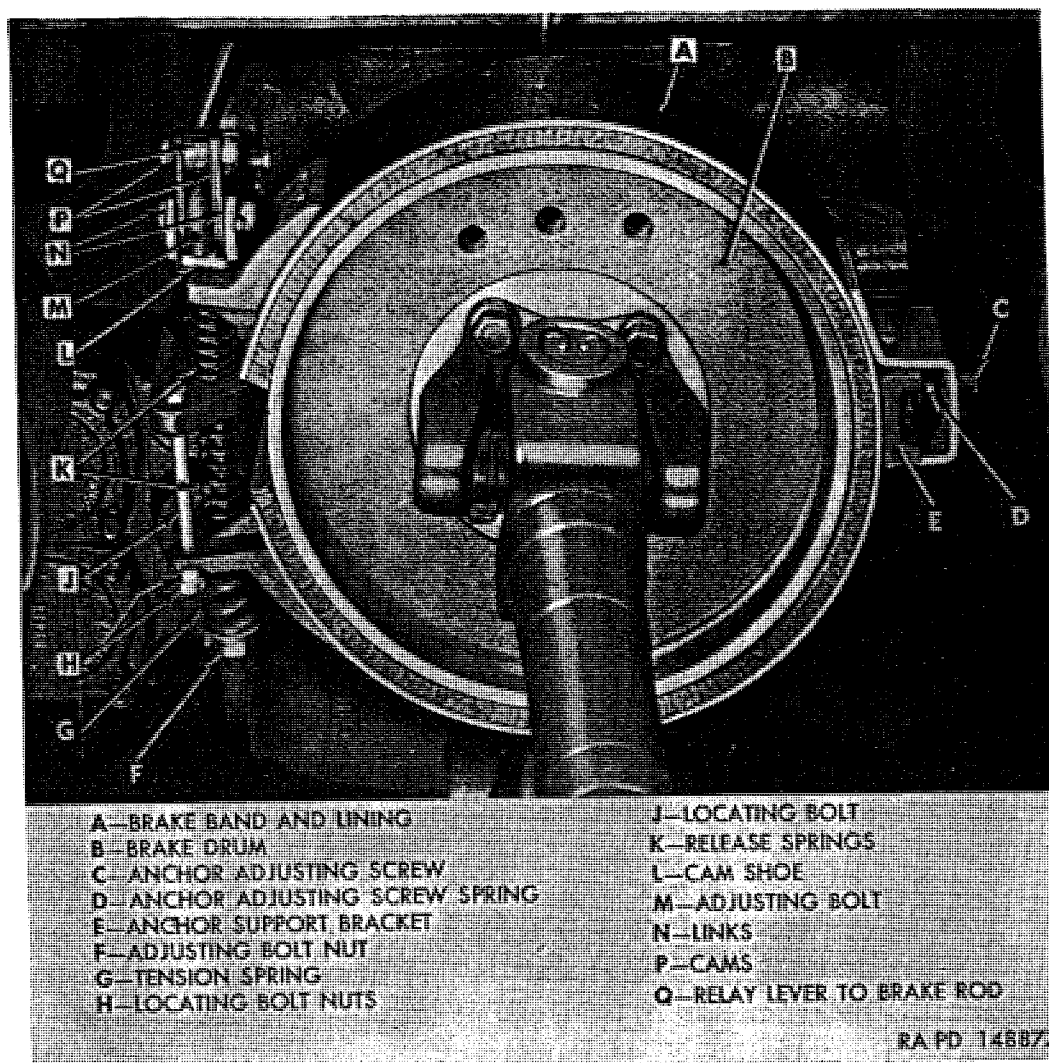
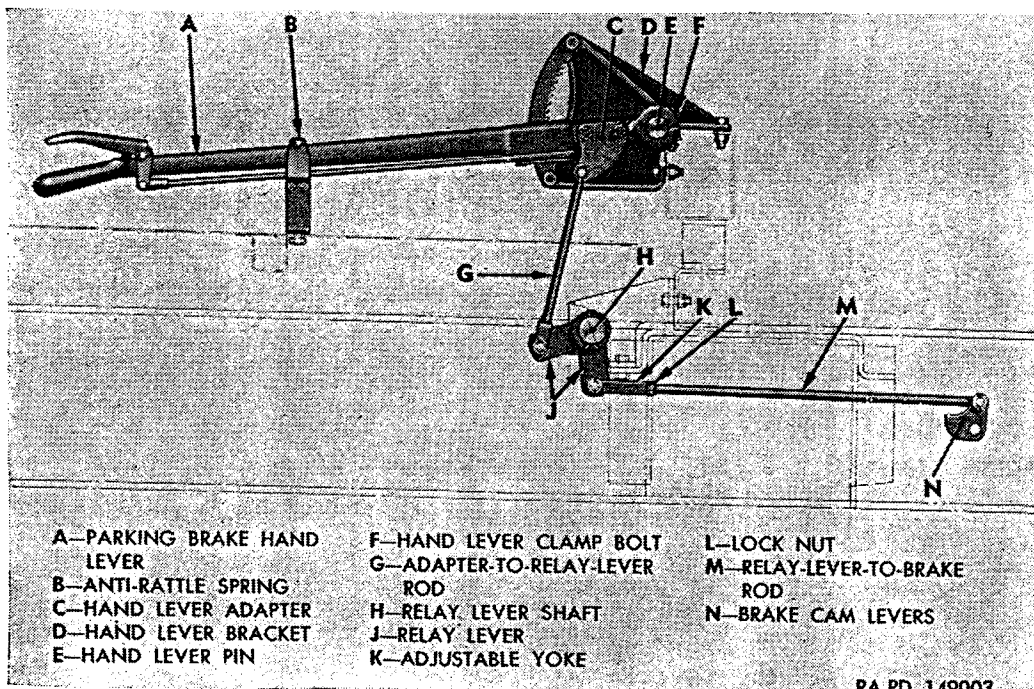

Figure 260. Parking brake drum, band, and linkage installed on transfer.
Figure 261. Parking brake linkage.
a. *Mechanical Parking Brake.* Mechanical parking brake is an external-contracting one-piece band-type brake, located at rear of transfer assembly (fig. 260). Parking brake drum is installed between transfer-to-pillow-block propeller shaft flange and transfer output shaft flange. Brake band and lining assembly is supported around drum by a support bracket and anchor bracket which are integral with the transfer output gear bearing retainer. Parking brake hand lever (A, fig. 261) located at right of driver in cab, operates brake band through a relay lever and interconnecting rods.
- (1) Block wheels to prevent vehicle moving. Place hand lever in fully released position. Disconnect brake rod adjustable yoke (K, fig. 261) from relay lever by removing cotter pin and clevis pin.
- (2) Remove lock wire from anchor adjusting screw (C, fig. 260). Turn anchor adjusting screw as necessary to obtain a clearance of 0.015 inch between lining and drum. Install lock wire.
- (3) Loosen locknut on locating bolt (J, fig. 260). Draw up locating bolt until there is a clearance of 0.020 inch between lower end of lining and brake drum. Measure about 1½-inches clearance from end of lining. Tighten locknut on locating bolt.
- (4) Loosen locknut on adjusting bolt (M, fig. 260). Draw up adjusting bolt to obtain a clearance of 0.020 inch between upper end of lining and brake drum. Measure about 1½-inches clearance from end of lining. Tighten locknut on adjusting bolt.
- (5) Adjust yoke (K, fig. 261) on brake rod so that clevis pin may be freely inserted through yoke and relay lever. Install clevis pin and cotter pin, then tighten lock nut against yoke. Remove blocks from wheels.
(fig. 260)
(fig. 261)